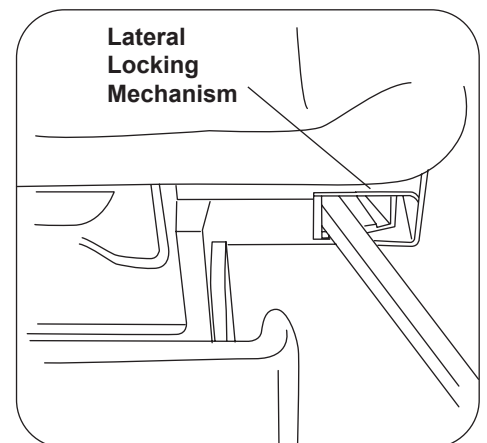

Figure 14. Stirrup Lateral Adjustment
1. Lift end of stirrup and then rotate outward to desired position (Figure 14).